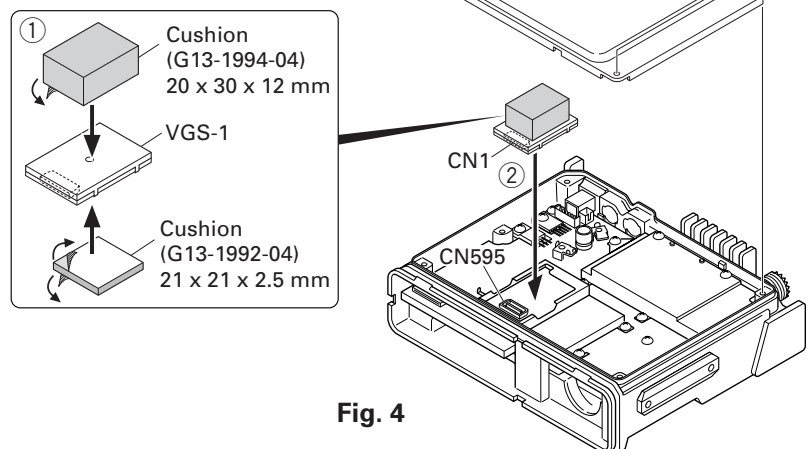

Fig. 4
2. Attach two cushions to VGS-1 as shown in Figure 4. ( ① )
3. Insert the VGS-1 connector (CN1) into the TX-RX unit (A/2) connector (CN595). ( ② )